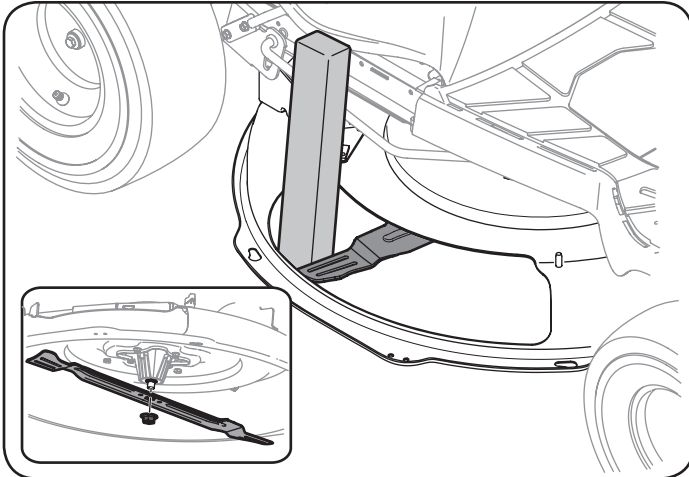

Figure 44
2. Using a block of wood or 2 x 4, insert it into the deck opening and rotate the blade around until it wedges the wood between the deck opening and the cutting blade, as shown in Figure 44.
3. Remove the hex flange nut that secures the blade to the spindle assembly, and remove the blade. See the Inset of Figure 44.